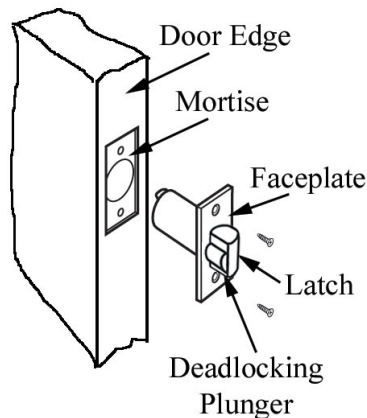
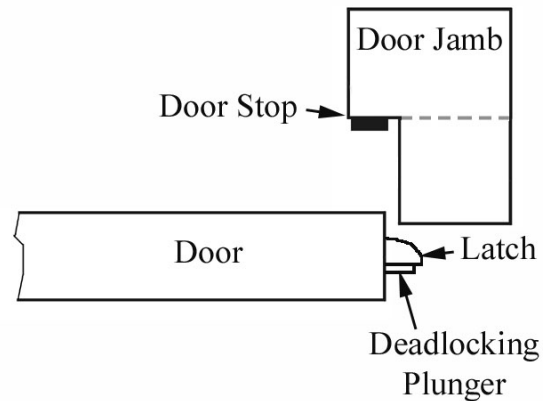

Figure 2-20 – Mortising Latch on Door Edge
Figure 2-21 – Latch Orientation on Door Edge
- 2.7.1 If not already done, mortise the edge of the door to accommodate the Latch & Faceplate (Figure 2-20).
- 2.7.2 Making certain that the Latch is properly oriented (*Note: The Deadlocking Plunger of the Latch must face away from the Door Stop of the Doorjamb*, Figure 2-21.), install the Latch & Faceplate with the two screws provided (Figure 2-20).